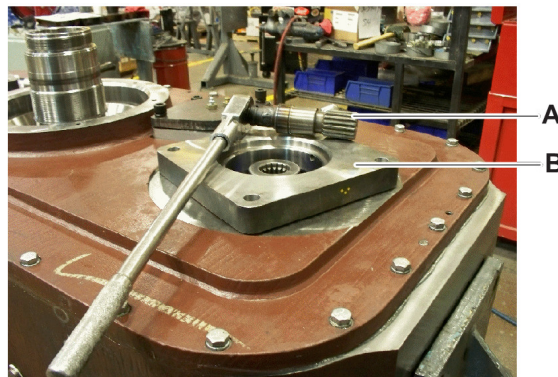

Figure 2
3. Insert the input pinion tool (Figure 2, item A) into the motor adapter spline (item B).